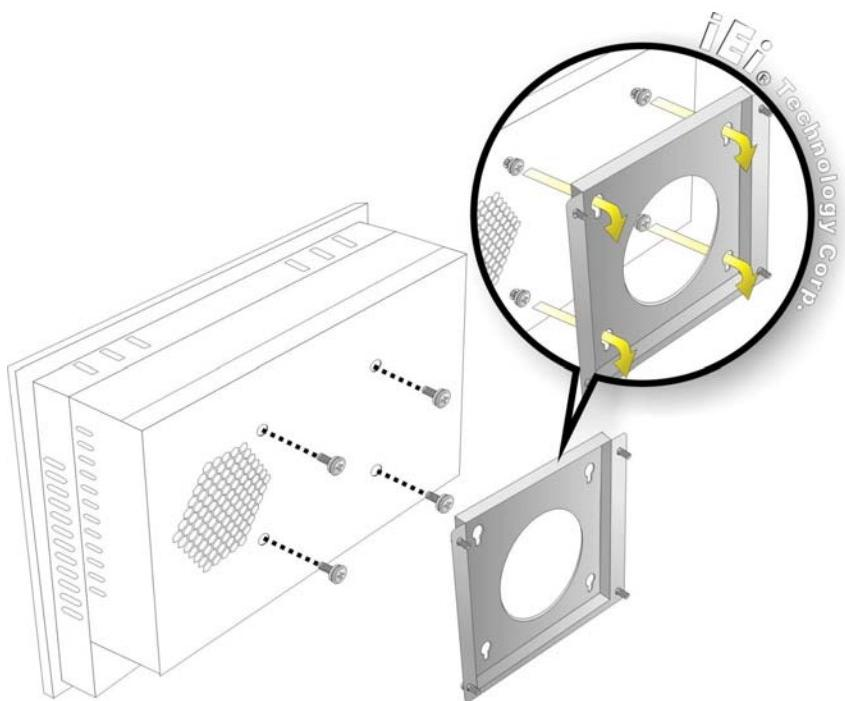

Figure 3-23: Mount the Chassis
Step 6: Insert the four monitor mounting screws provided in the wall mounting kit into the four screw holes on the rear panel of the monitor and tighten until the screw shank is secured against the rear panel (**Figure 3-23**).
Step 8: Carefully insert the screws through the holes and gently pull the monitor downwards until the monitor rests securely in the slotted holes (**Figure 3-23**). Ensure that all four of the mounting screws fit snugly into their respective slotted holes.